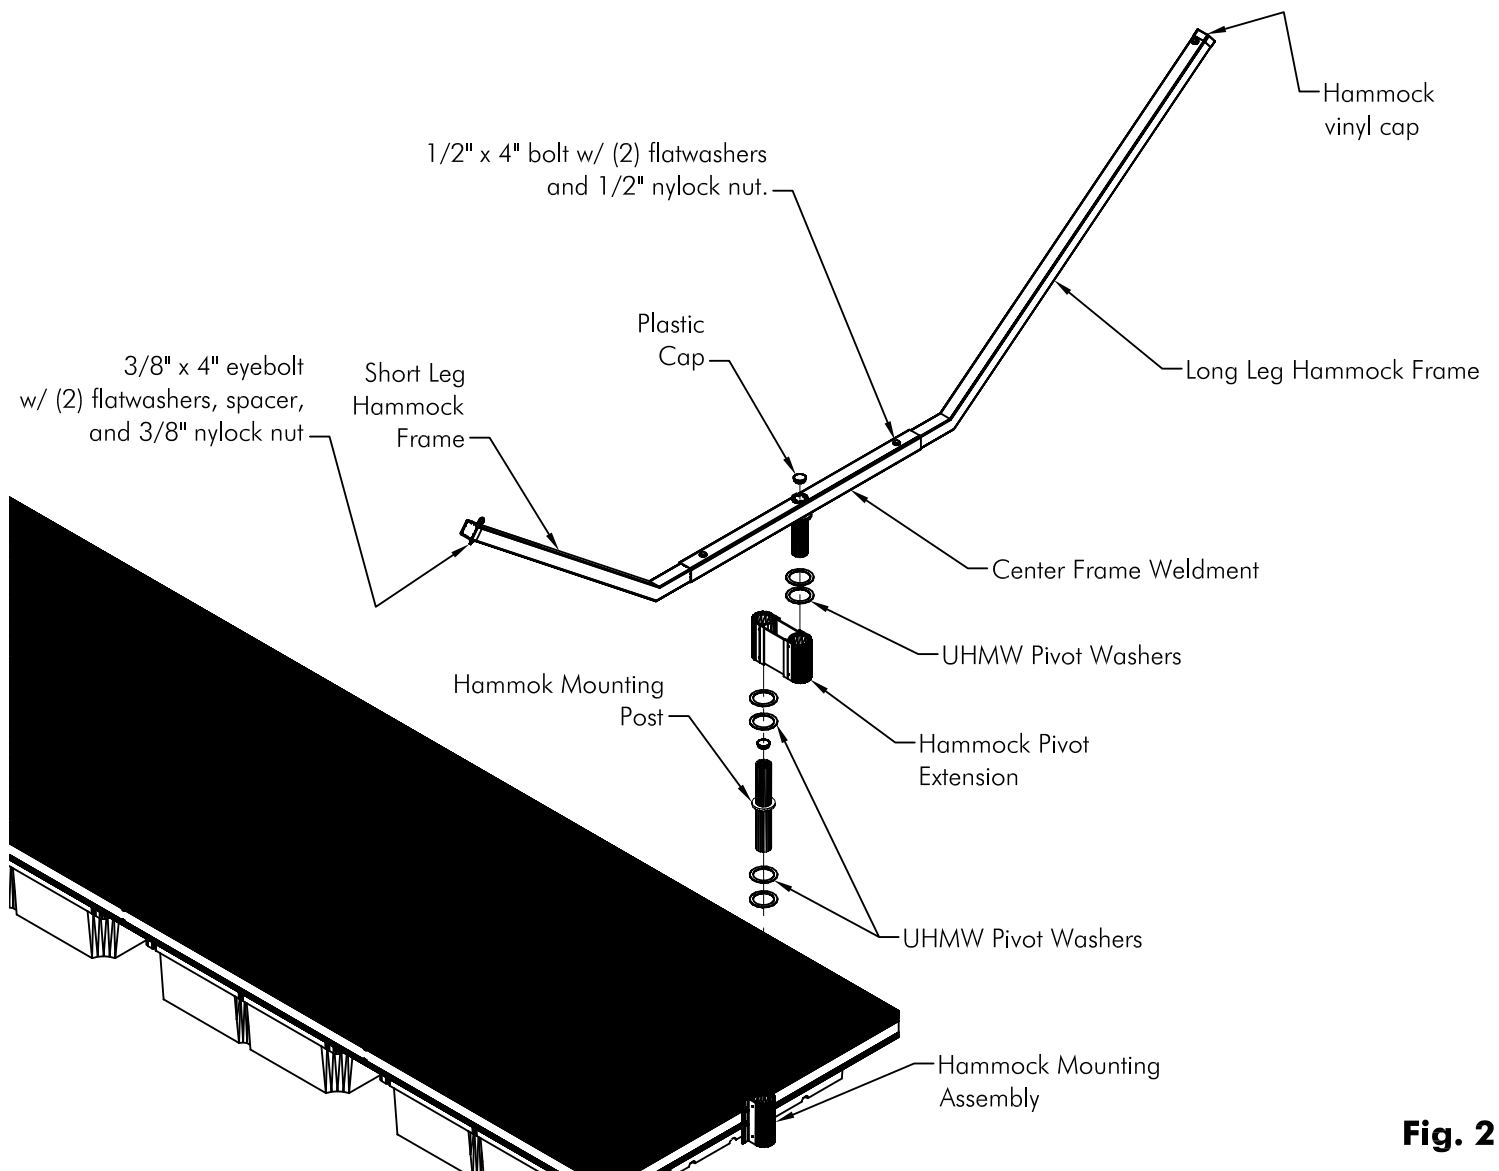

Fig. 2
- Insert 15 1/4" long end of the hammock mounting post thru (2) UHMW pivot washers, and into hammock mounting assembly. See Fig. 2
- Slide (2) UHMW pivot washers over hammock mounting post along with hammock pivot extension. See Fig. 2
- Put together hammock frame by inserting the long and short legs into the center frame weldment. Attach with (2) 1/2" x 4" bolts w/ (4) flatwashers and (2) 1/2" nylock nuts. Insert the (2) 3/8" X 4" eyebolts w/ (4) flatwashers, (2) spacers and 3/8" nylock nuts. Slide the vinyl caps on the ends of the hammock frame. See Fig. 2
- Insert the hammock frame post thru (2) UHMW pivot washers and into the remaining hole in the hammock pivot extension. See Fig. 2
- Slide the (2) plastic caps into the openings in the center frame weldment post and the hammock mounting post. See Fig. 2